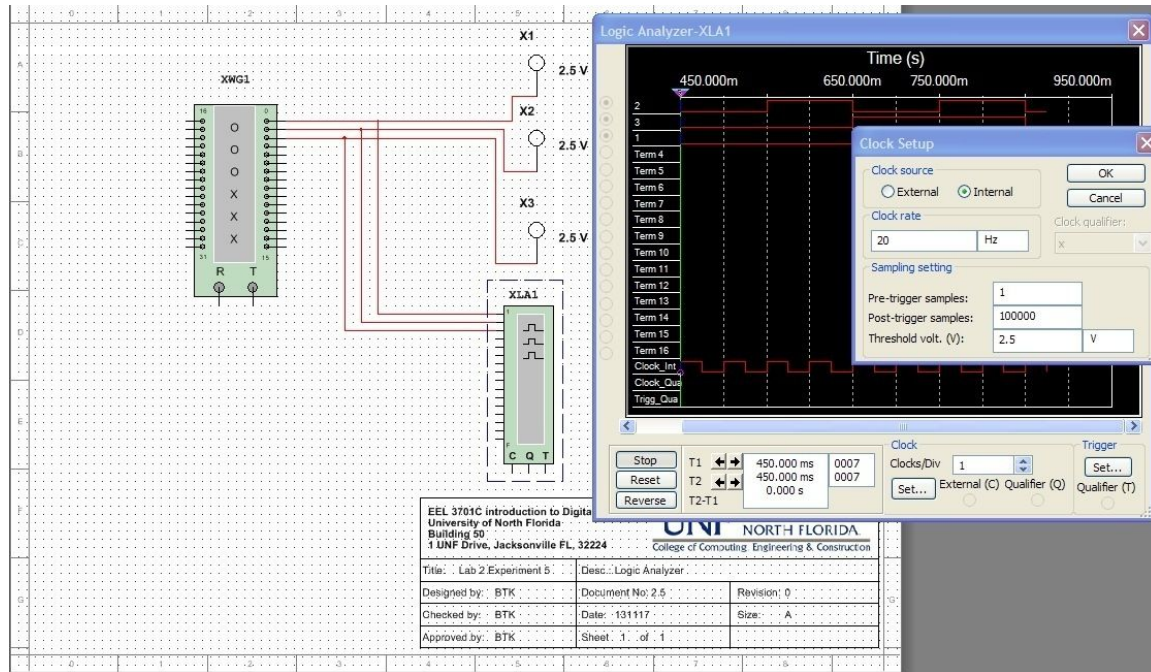

Figure 15. Logic Analyzer sink display, control and clock windows.
- 4) Double-click the Logic Analyzer sink to view its display and control window. There are several control panels at the bottom of the window. In the Clock panel, click the Set button to access the Clock parameters. Your Multisim screen should now look something like Figure 15. Set the clock rate to 20 Hz, internal. Set the pre-trigger samples to 1 and the post-trigger samples to 10000. This will ensure you collect enough data to view the entire sequence.